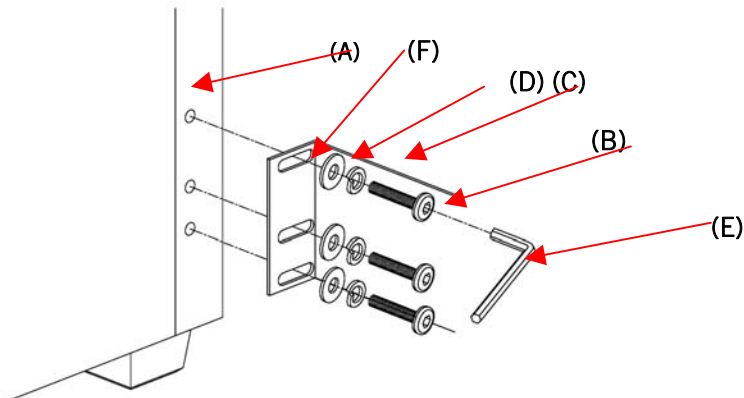

Fig 1.
1. Align the holes of the bed frame faceplates **(F)** with the holes found in the sides of the headboard **(A)**. (Fig 1)